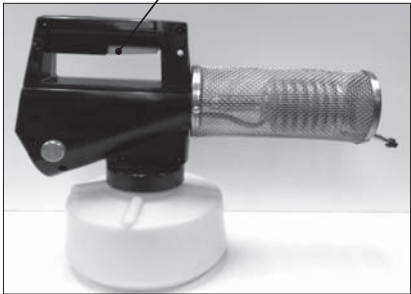

Figure 7
2.) Excessive insecticide output.	2.) Pump with a lower rate. (See Figure 7).
2.) If fog is thin or yellowish the pumping rate is too low.	2.) Increase your pumping rate (See Figure 7).
3.) If fog is wet and dripping, the pump rate is too high or it has not reached operating temperature.	3.) Decrease your pumping rate (See Figure 7).